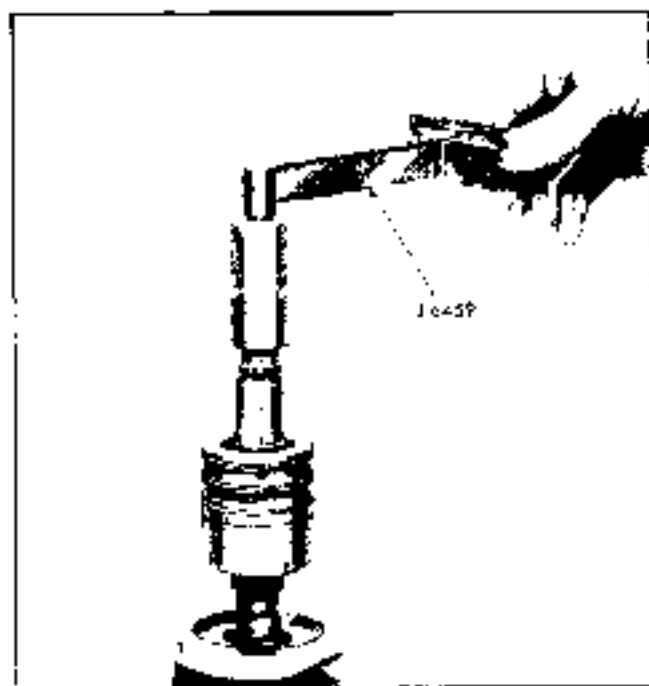

Fig. 9-66 Checking Worm Preload
4. Attach an inch-pound torque wrench with 3/4" 12-point socket to stub shaft (Fig. 9-66).